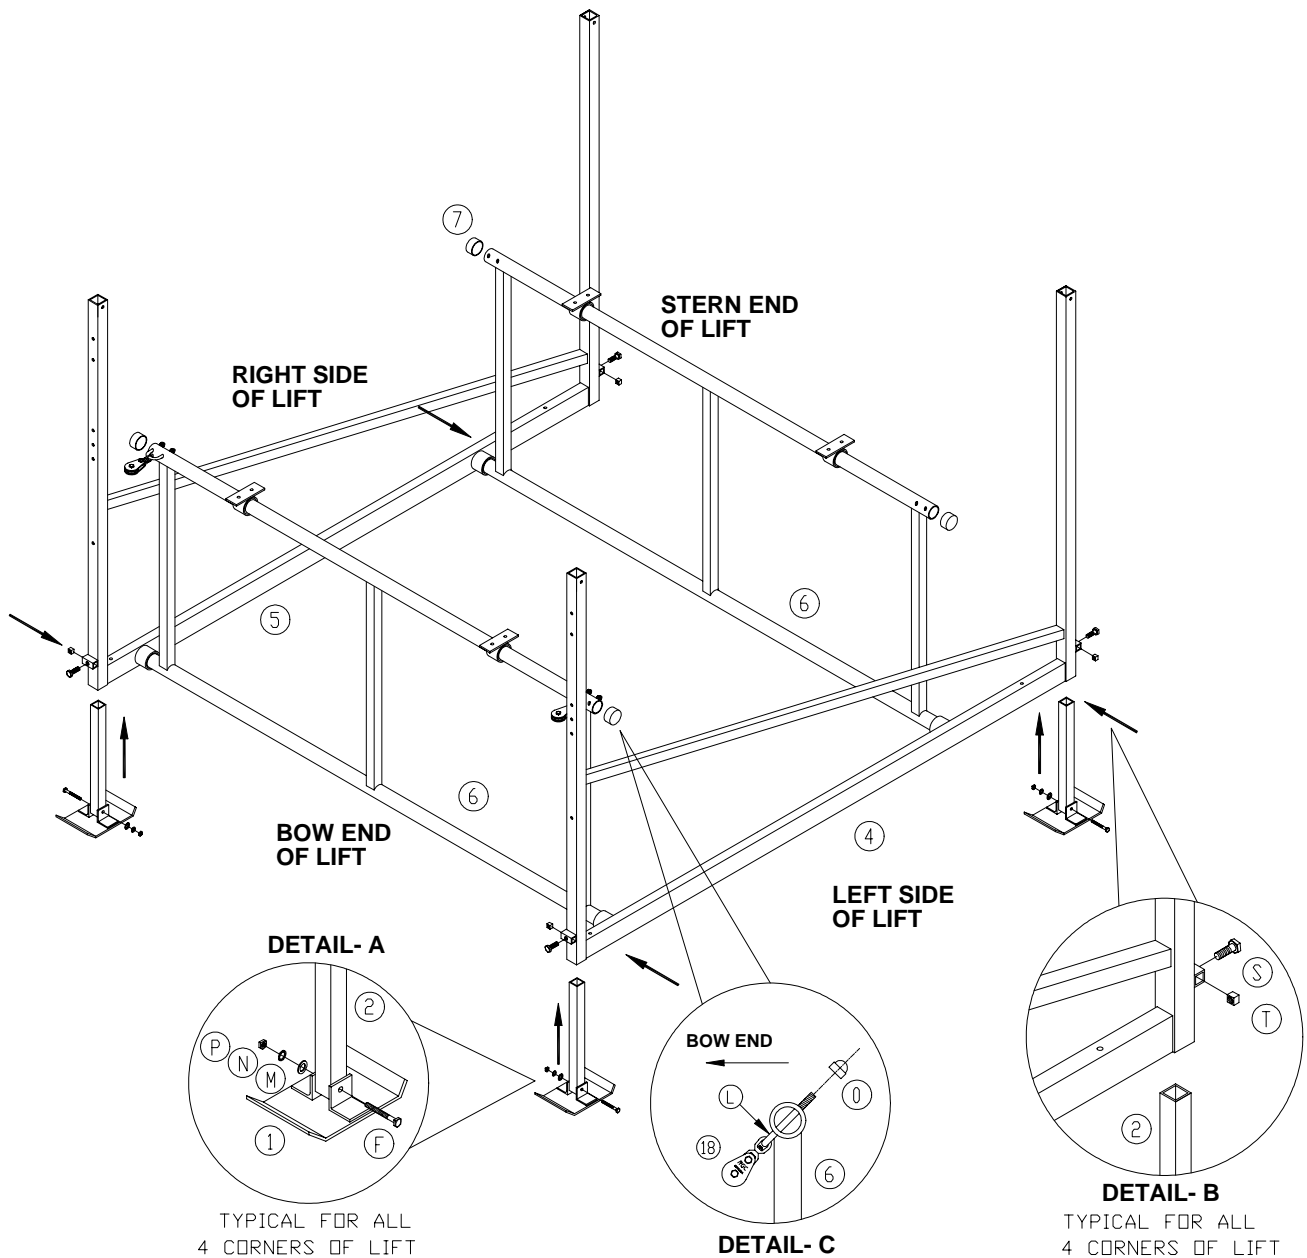

Figure 3-1.
1. Refer to **Figure 3-1**. Attach foot plate to extension leg as shown in **Detail A**. Repeat procedure for all four foot plates.
1. Refer to **Figure 3-1**. Insert plastic caps onto the tube ends containing the pivot bunk mounting brackets of the lifting arms.
1. Insert a U-bolt through the swivel of the polymer block. Install the U-bolt on each end of the lifting arm assemblies. Insure U-bolts are angled downward facing the bow end when the lifting arms are in the upright position, as shown in **Detail C** of **Figure 3-1**.
1. Refer to **Figure 3-1**. Adjust extension legs to height required to keep lift level in its operating position. Tighten with lock screw at all four corners of lift as shown in **Detail B**.